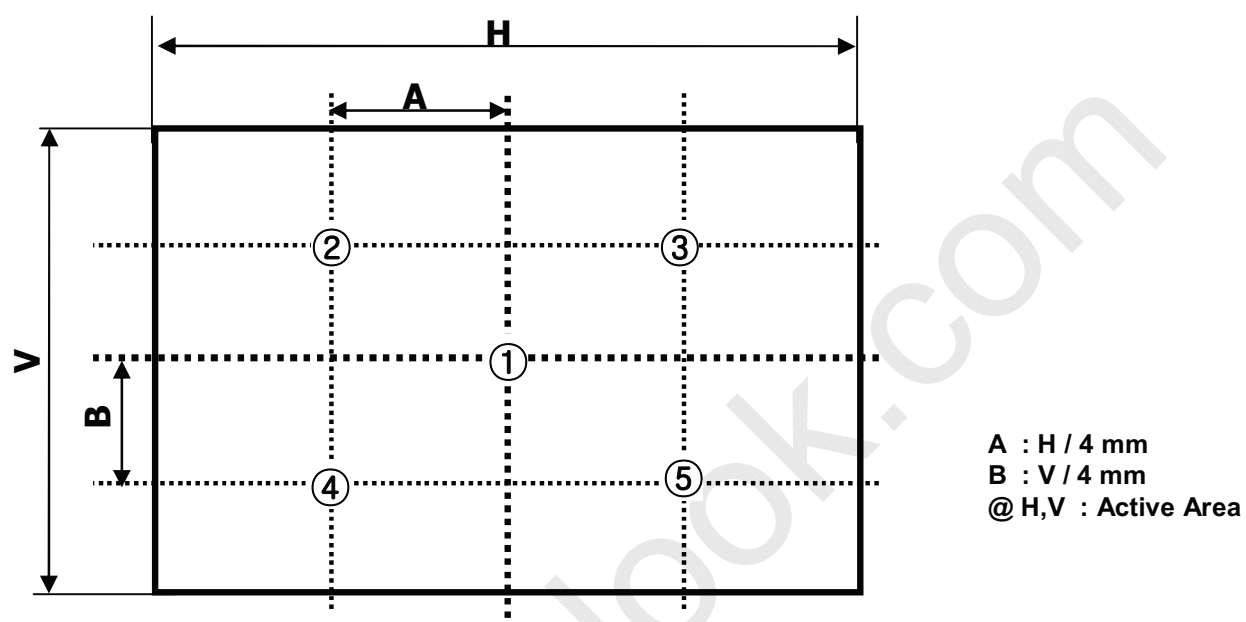

FIG. 2 5 Points for Luminance Measure
n = the Position number(1, 2, 3, 4, 5). For more information, see FIG 2.
2. Surface luminance is determined after the unit has been 'ON' and 1hour after lighting the backlight in a dark environment at 25±2°C. Surface luminance is the luminance value at center 1-point across the LCD surface 50cm from the surface with all pixels displaying white. For more information see the FIG. 2.
For more information, see the FIG. 2.